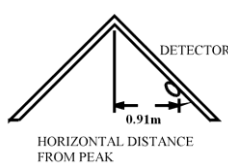

Figure 5: RECOMMENDED LOCATION TO MOUNT SMOKE DETECTORS IN ROOMS WITH SLOPED, GABLED, OR PEAKED CEILING
- If some of your rooms have sloped, peaked, or gabled ceilings, try to mount detectors 0.91 meter measured horizontally from the highest point of the ceiling as shown **Figure 5**.